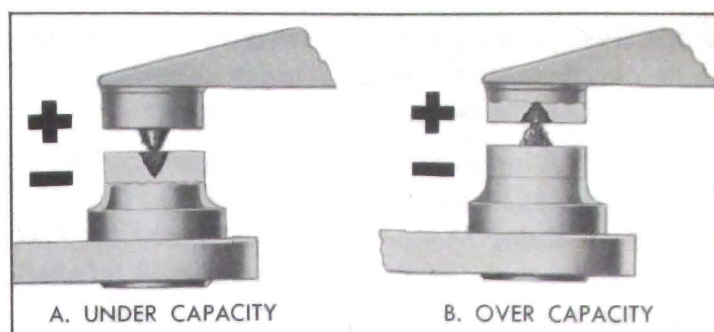

Figure 10-45—Result of Under or Over Capacity Condenser
tact point will result. A condenser having insufficient capacity will cause build-up of metal on the breaker arm (positive) point. See figure 10-45, view A. A condenser having excessive capacity will cause build-up of metal on the contact support (negative) point. See figure 10-45, view B.
4. Remove rotor from end of distributor shaft by removing two attaching screws, lock washers, and flat washers. See figure 10-45.